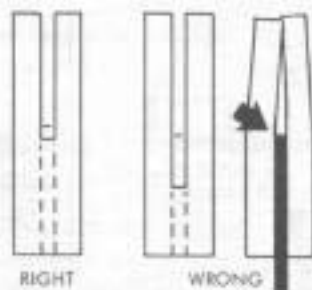

Figure 22
- The process of cutting thick boards into thinner ones is known as "resawing". It is a ripping operation. (See figure 22.) Small boards (up to 3-3/8-inch maximum width) can be resawed in one pass, but larger boards (up to 6-1/4-inch maximum) require two passes, one along each edge of the board.
- If the first cut is too deep, the kerf will close and bind the saw on the second cut, with danger of kickback. Also, when the kerf closes, the two sides of the cut are no longer parallel to the saw blade, and the saw will cut into them to spoil their appearance. (See figure 22.)